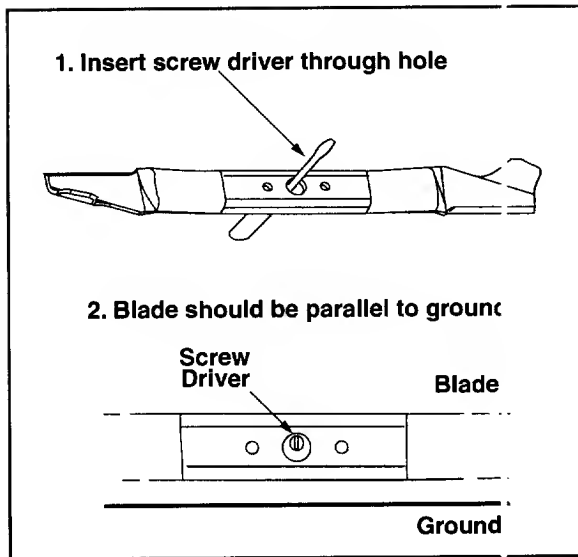

Figure 13
- Test the blade by balancing it on a round shaft screwdriver or a blade balancer. See figure 13.